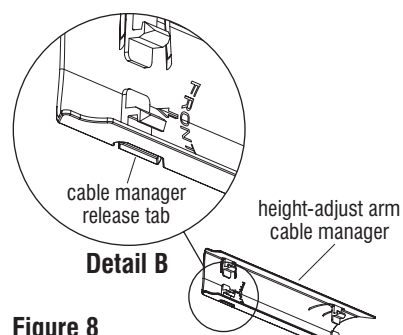

Figure 8
3. Snap cable manager back to the underside of the extension arm assembly taking note the text "FRONT" inside the cable manager (Figure 8 & Detail B).